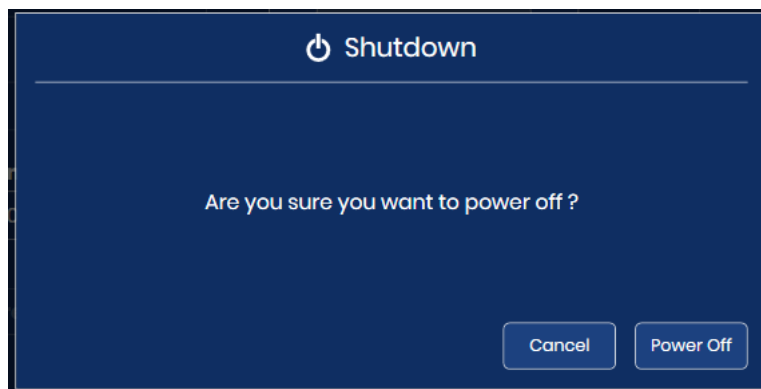

Figure 4-25 Confirm Shutdown
4. Select “Yes” on the confirmation screen to continue with shutdown. (See Figure 4-25).